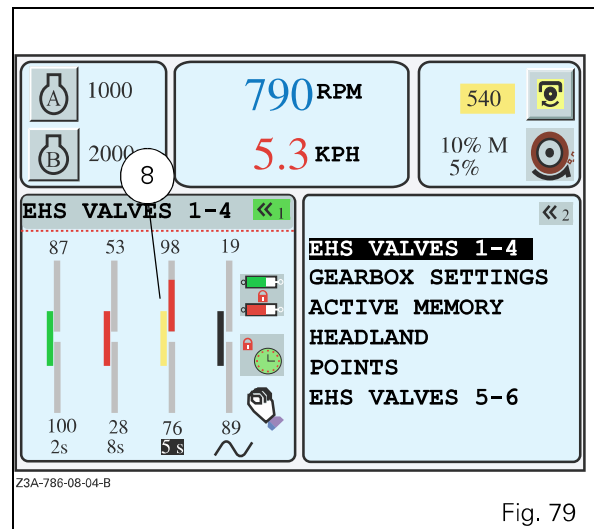

Fig. 79
- Validate by pressing the encoder or the key <<1. The window (Fig. 79) is displayed.